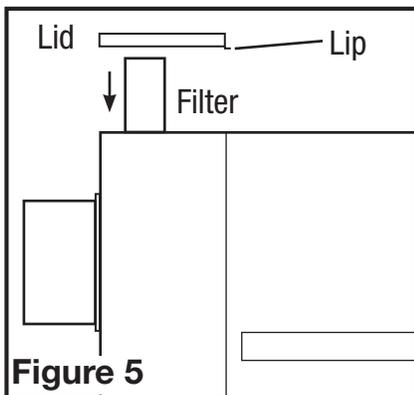

Figure 5
2. Install the Air Filter (not included) into the holder inside the filter box. Make sure it is seated all the way to the bottom of the channel. Take note of the airflow direction (Figure 5).
2. Connect the ducting to the fan's duct collar (Figure 5). Seal ducting to housing with appropriately rated tape. Use screws (rectangular duct) or suitable clamps (round duct) to secure in place. Do not allow screws to interfere with operation of damper. Always duct the fan to the outside through a wall or roof cap. It is recommended that low restriction termination fittings be used.